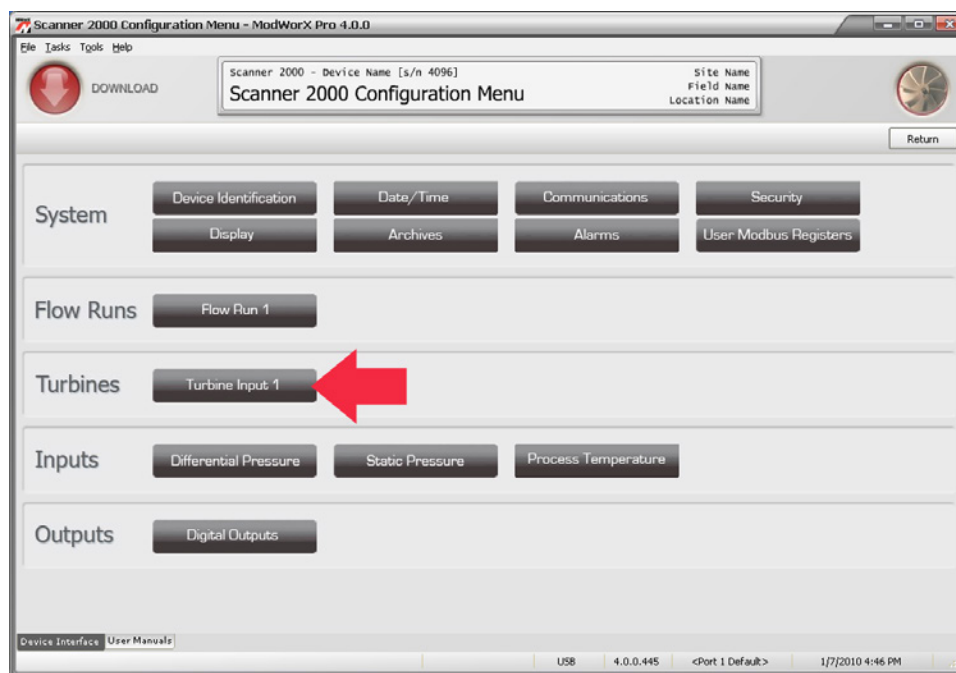

Figure 5.2
2. Then, click on **Turbine Input 1** (or **Turbine Input 2**, if applicable) in the Configure screen (Figure 5.2). To configure a pulse input for a Scanner 2000, you must select Turbine Input 2. To configure a pulse input for a Scanner 2200, either Turbine Input 1 or Turbine Input 2 may be used.